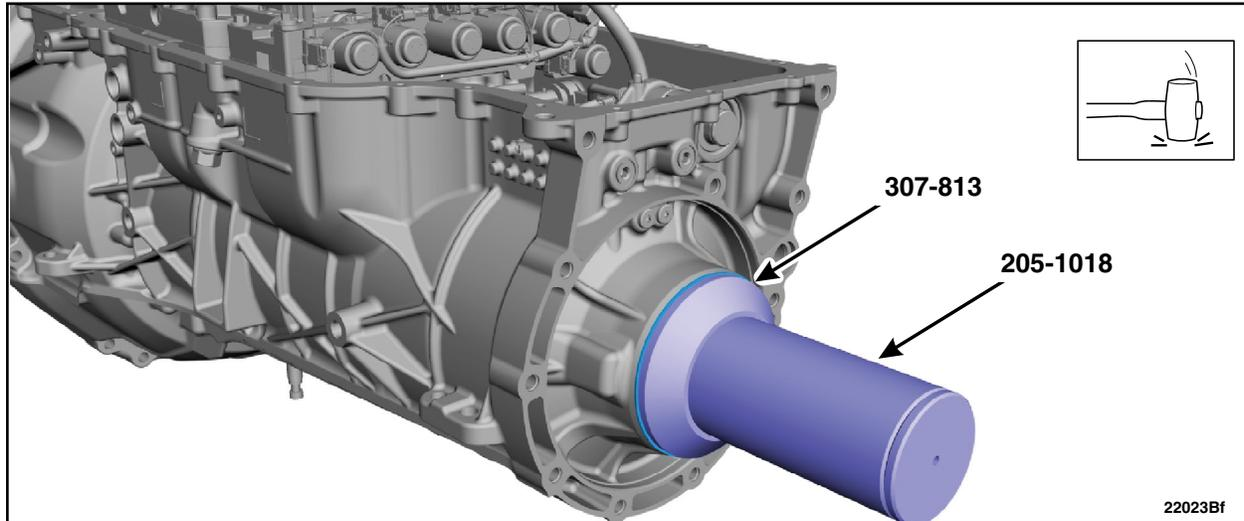

FIGURE 71
82. Using the Special Service Tool: 205-1018 Installation Tube., 307-650 Installer, Output Shaft Seal, install the *new* output shaft seal. See Figure 71.